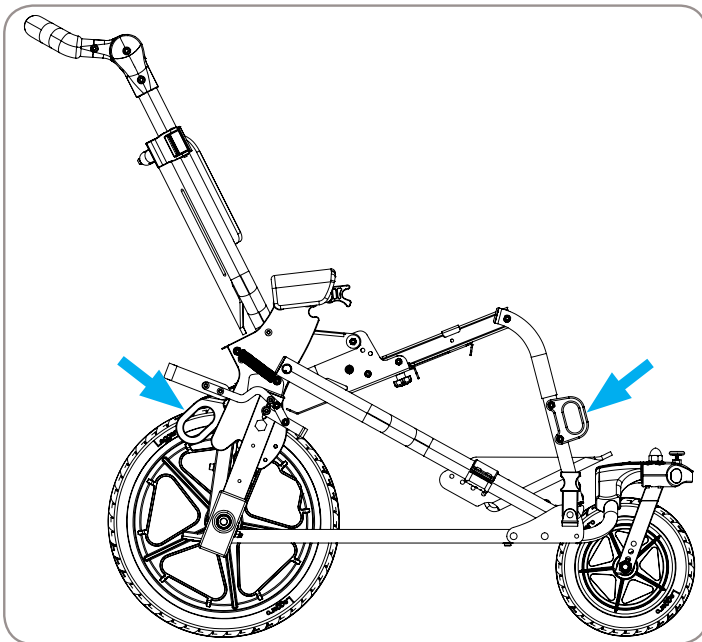

Figure 21
- For approved transit tie-down locations and location of belt/harness attachment pin, see Figures 21 and 22.